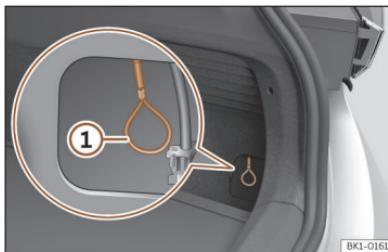

Fig. 73 Behind the cover: emergency unlock of the charging connector.
- Pull the emergency manual release loop >>> **Fig. 73** ①. The charging connector can be removed >>> △.